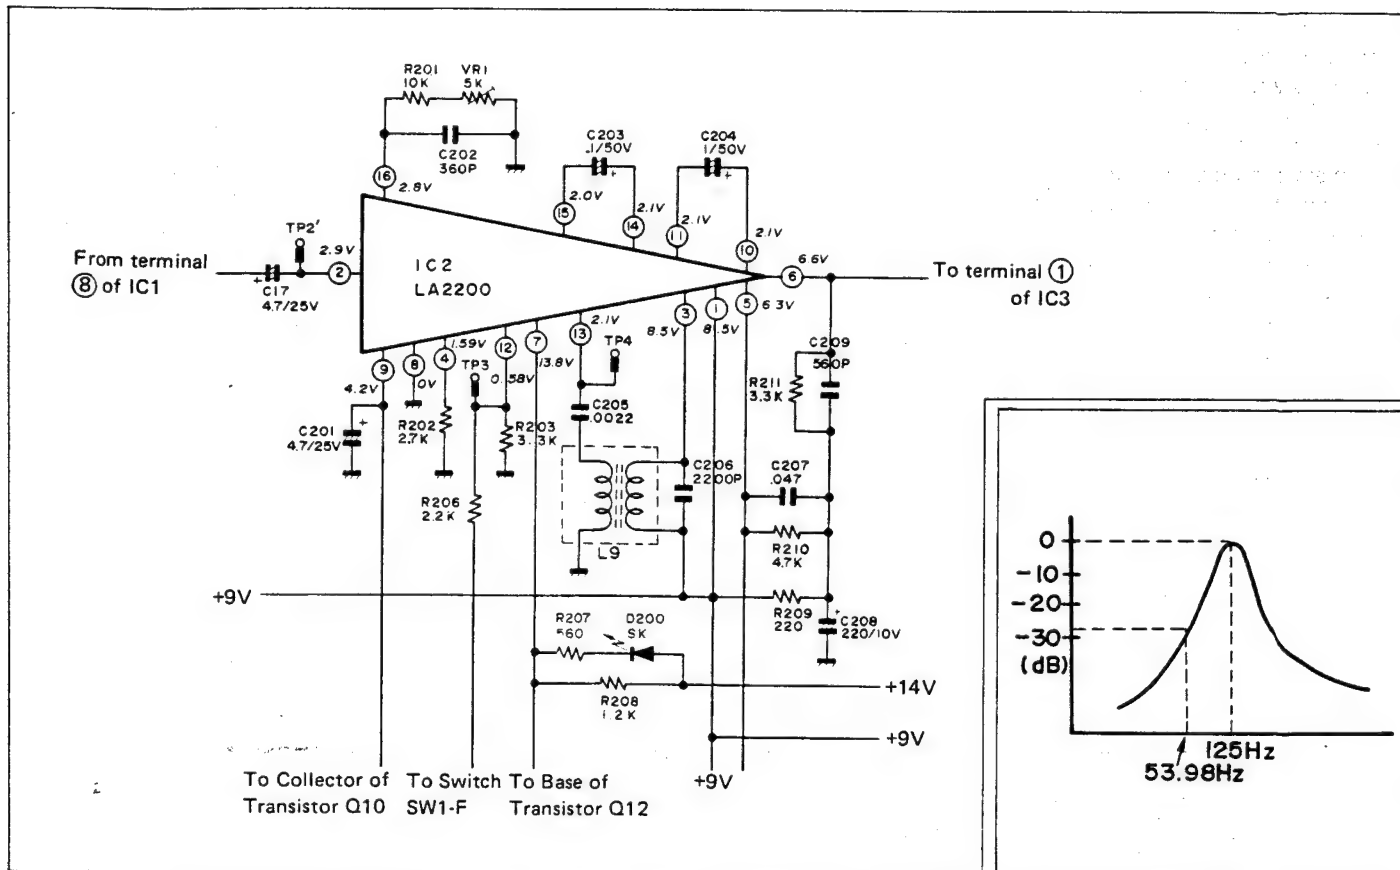

Figure 14-1 SK SIGNAL CONTROL CIRCUIT
The integrated circuit IC2 is aimed at controlling the SK signal and its structure is as shown in Fig. 14-1. The important functions of this circuit are found at its included two pins, pin ⑨ for the muting and pin ⑫ for V.C.O. control.
- a) With pin ⑨ opened;